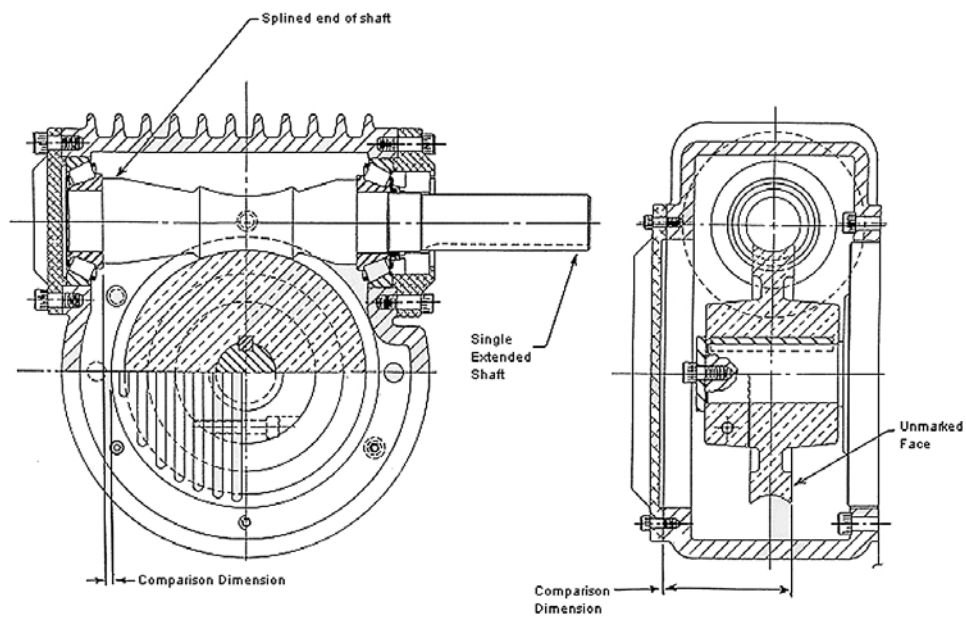

FIGURE 19
8.4.1.1.1.2. Record the distance between the worm bearing shoulder on the splined end of the shaft (opposite the single extension end of the shaft) to the finished bore on the cover side (see Figure 19).
8.4.1.1.2.2. Record the distance from the finished face of the housing to the unmarked face of the gear (see Figure 19).
- 8.4.1.1.3.2. The distance from the finished face of the housing to the unmarked face of the gear, noted at the time of disassembly, must be duplicated, either by grinding the adjusting spacer or adding shims (see Figure 19).
- 8.4.1.1.3.5. Assemble bearing cups, shims and caps and establish pre-load, 2 IN-LBS, .003 SHIM. Adjust shims under bearing cups until the dimension between the worm bearing shoulder and the finished housing bore, as recorded at the time of disassembly, is duplicated (see Figure 19).